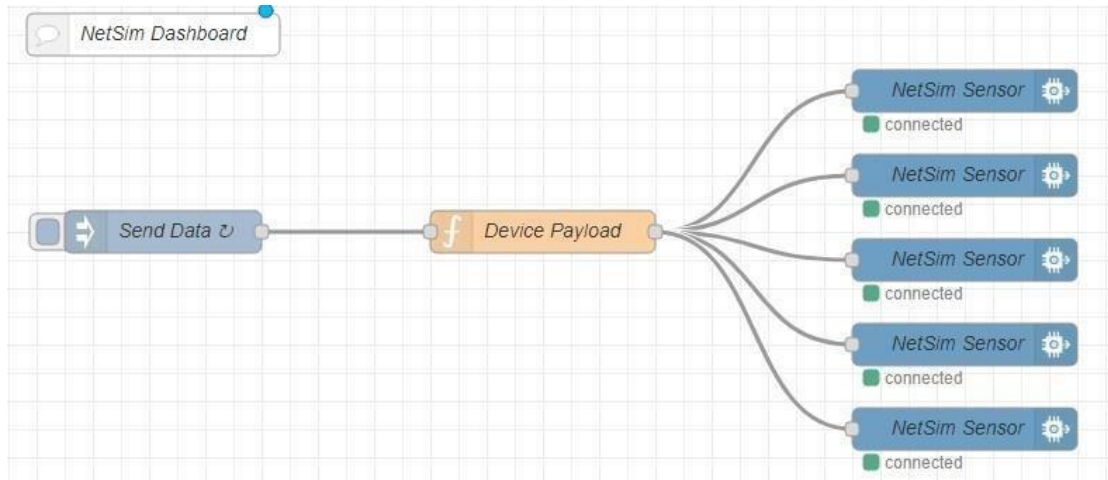
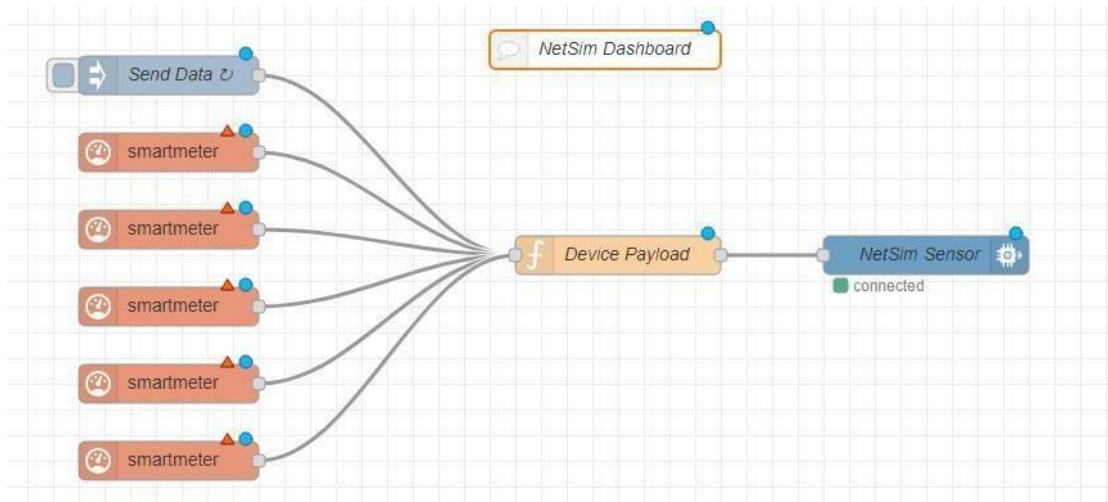
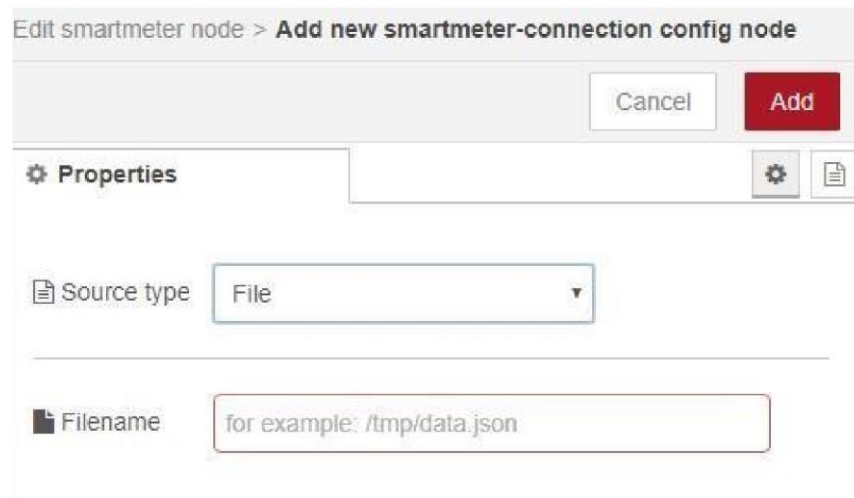

Figure 1.1 Flow design for Multiple sensors
Figure 1.2 Multiple Smart Meter connecting one Virtual sensor
Figure 1.3
- Fig:1.1: If you want to have sensor server
- Fig:1.2: If you are using Smart meter to get the payload to sensor server
- Configure the device present in the flow graph in Figure 1.1, Figure 1.2, Figure 1.3
Users can also use a smart meter to send the data. Which accepts the following as input and here is a format to give file as input as shown in Figure 1.3